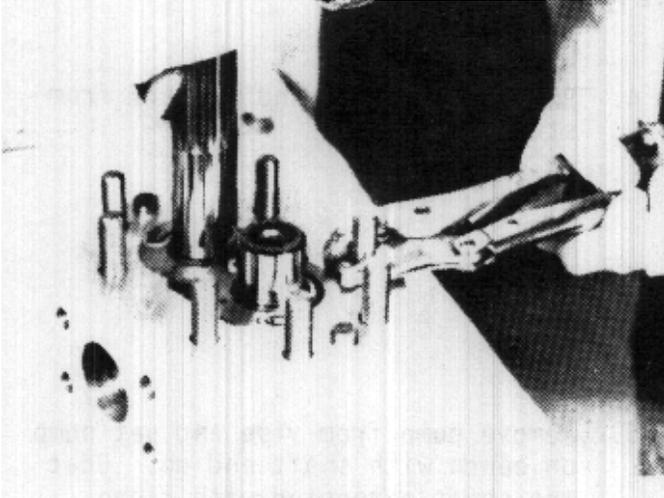

FIGURE 47
- Using vise grip pliers, remove stud bolts (22) from pump. (Figure 47)